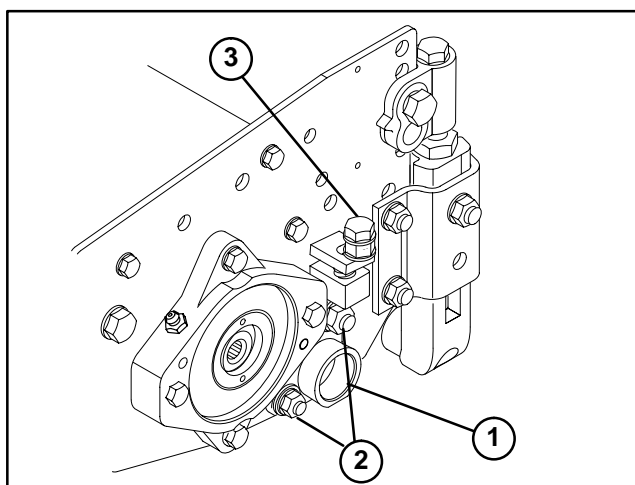

Figure 10
5. Slightly loosen (2) locknuts securing pivot hub to left sideplate (Fig. 10).
6. Rotate pivot hub adjusting screw until a slightly larger gap exists between reel blades and bed knife on left end than on right end (Fig. 10).